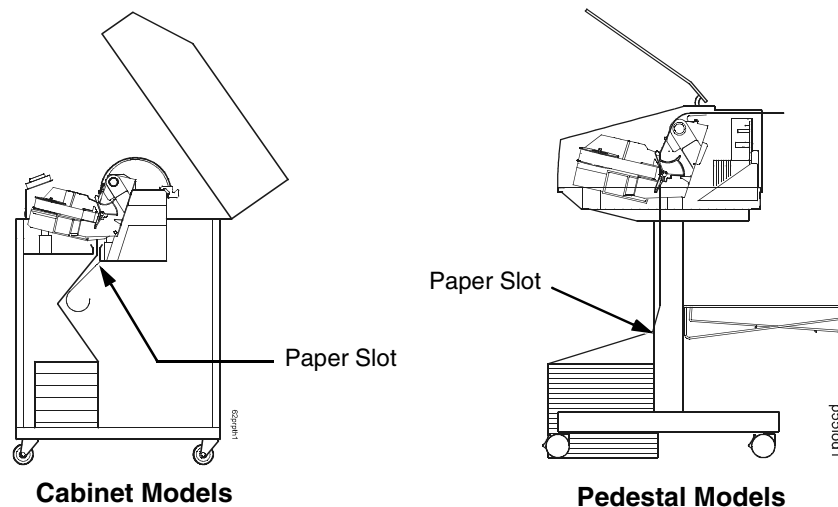

Figure 49. Paper Slot Location
4. Feed the paper up through the paper slot (see Figure 49). It may be easier to feed one corner of the new paper up through the slot first. When this corner can be grasped from the top, rotate the paper back to the normal position.